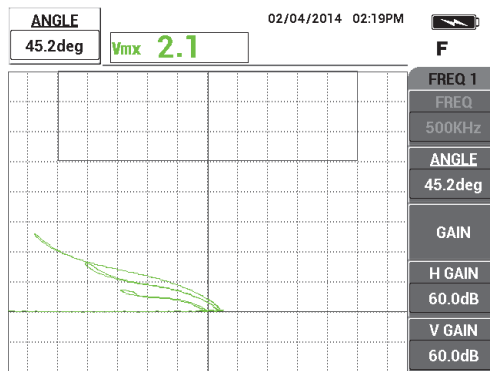

Figure 5-4 The lift-off signal as close as possible to horizontal
6. Press the ANGLE key (◁⊕). The **ANGLE** parameter defaults to the coarse mode. Press the Enter key (✓) in order to switch the **ANGLE** parameter to the fine mode. Adjust the **ANGLE** value with the knob until the lift-off signal is as close as possible to horizontal (see Figure 5-4 on page 129).